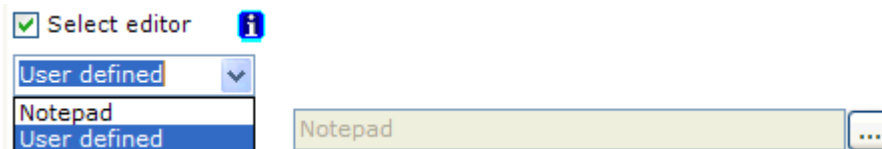

Figure 3.15 Select editor – user defined editor may be selected
- **Editor/Select Editor** – Used to control editor used for viewing and editing files. The default setting is that 'Select editor' is checked with preferred editor Notepad. Any editor may be used by selecting 'User defined' and choose editor executable (See Figure 3.15). If 'Select editor' is not ticked the associated editor of the file is used. Note that attachments always are opened in associated editor.